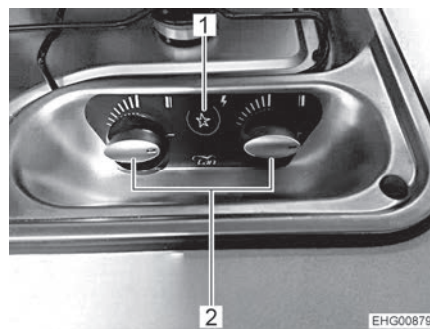

Fig. 130 Operating controls for gas cooker
- Turn the control knob (Fig. 130,2) on the burner you wish to use to the ignition position (large flame).
- Press the push button (Fig. 130,1). Ignition sparks are generated at the burner.